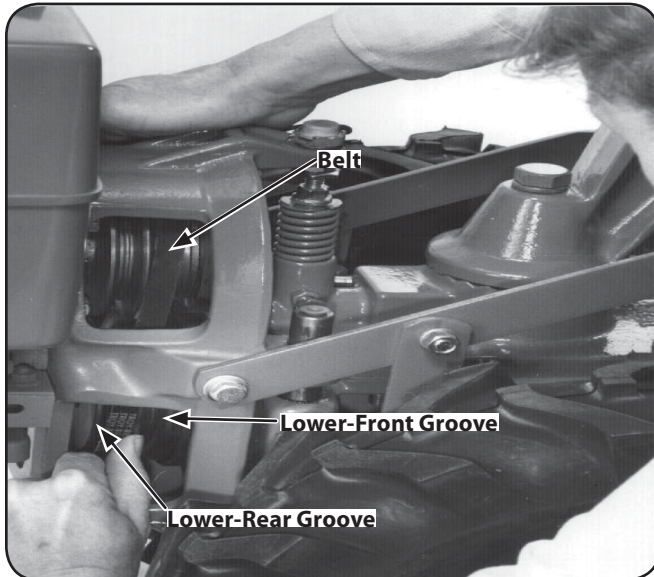

Figure 4-7
3. Kneel on the left side of tiller. To create belt slack, reach over to the right side of the pulleys and push in at the center of the belt with a finger. At the same time, use your left hand to work the belt part-way onto the lower-front transmission pulley groove. See Fig. 4-7.